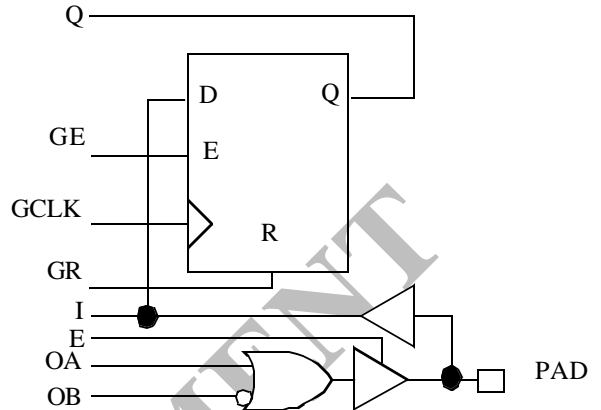

Figure 4. UT4090 FPGA I/O Cell
- 308 bi-directional input/output pins, PCI-compliant for 5V and 3.3V buses (see Figure 4)